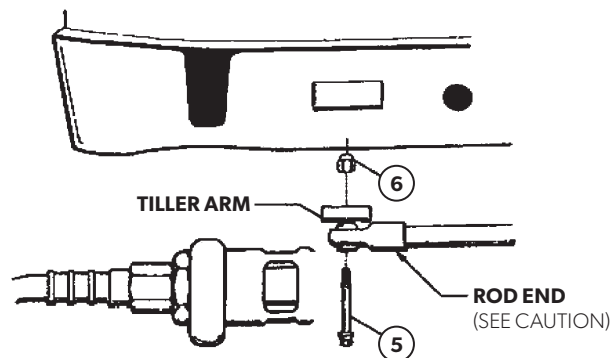

Figure 2.
6. Use steering wheel to center steering system, then rotate motor to bring tiller arm over hole in rod end (see figure 2). Position rod end under tiller arm. Insert bolt (item 5) upwards through rod end and thread fully into hole in tiller arm as shown. Tighten securely. Thread on thin locknut (item 6) and tighten.